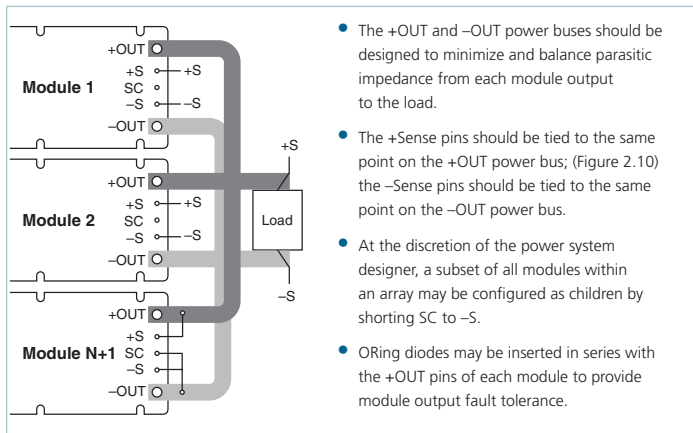
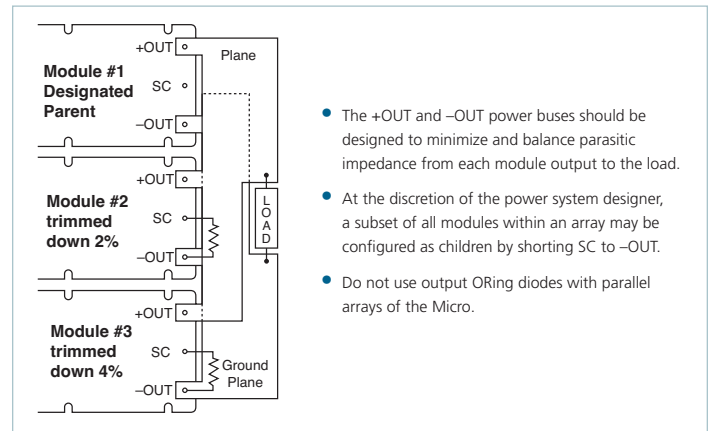

Figure 2.9 — N+1 module array output connections (Maxi and Mini)
Figure 2.11 — Parallel module array output connections (Micro)
**Parallel Operation (PR Pin):** The PR pin supports paralleling for increased power with N+1 or N+M redundancy. Modules of the same part number will current share if all PR pins are suitably interfaced. Figures 2.9 and 2.10 show connections for the Maxi and Mini modules; Figure 2.11 shows connections for Micro array. Applications containing two or more Micro modules must define a designated parent (talker) by stagger trimmer the output voltage of each subsequent module down by at least 2% or setting the remaining Micro modules in the system as designated listeners by connecting the SC pin to the negative output pin.